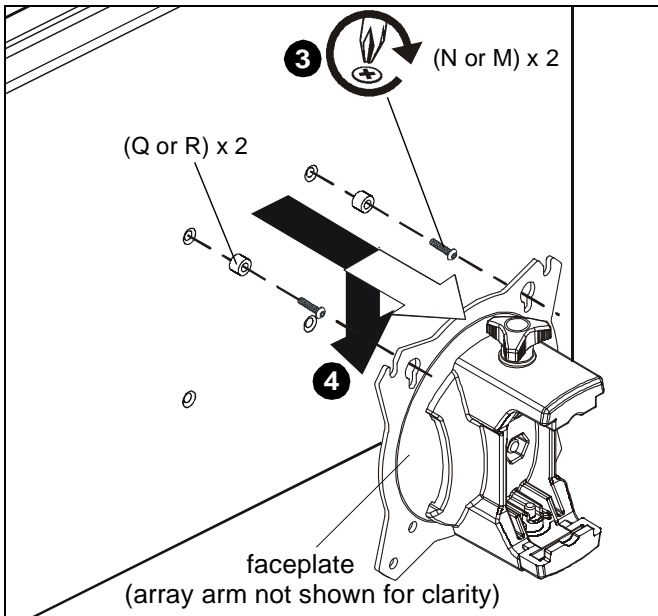

Figure 16
- Using Phillips screwdriver, carefully install two selected screws (N or M) through selected spacers (Q or R) into the *upper* mounting holes on the display. Thread screws completely into display, then back out 3 complete turns. (See Figure 16)
- Pick up and align display so that screws (N or M) (installed on the back of the display in the previous step) fit into the mounting holes on the faceplate. Lower the display firmly into place. (See Figure 16)